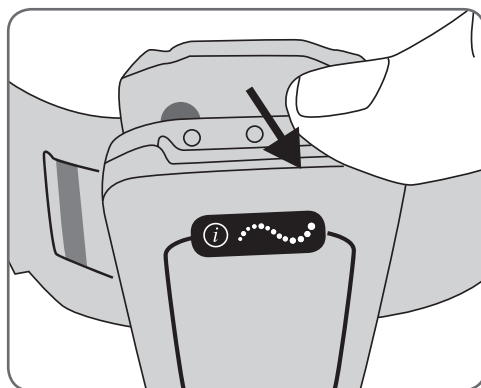

Figure 11-5: Removing the Thigh RF Stim Unit.
1. Remove the Thigh RF Stim Unit from the Thigh FS Cuff cradle. See Figure 11-5.